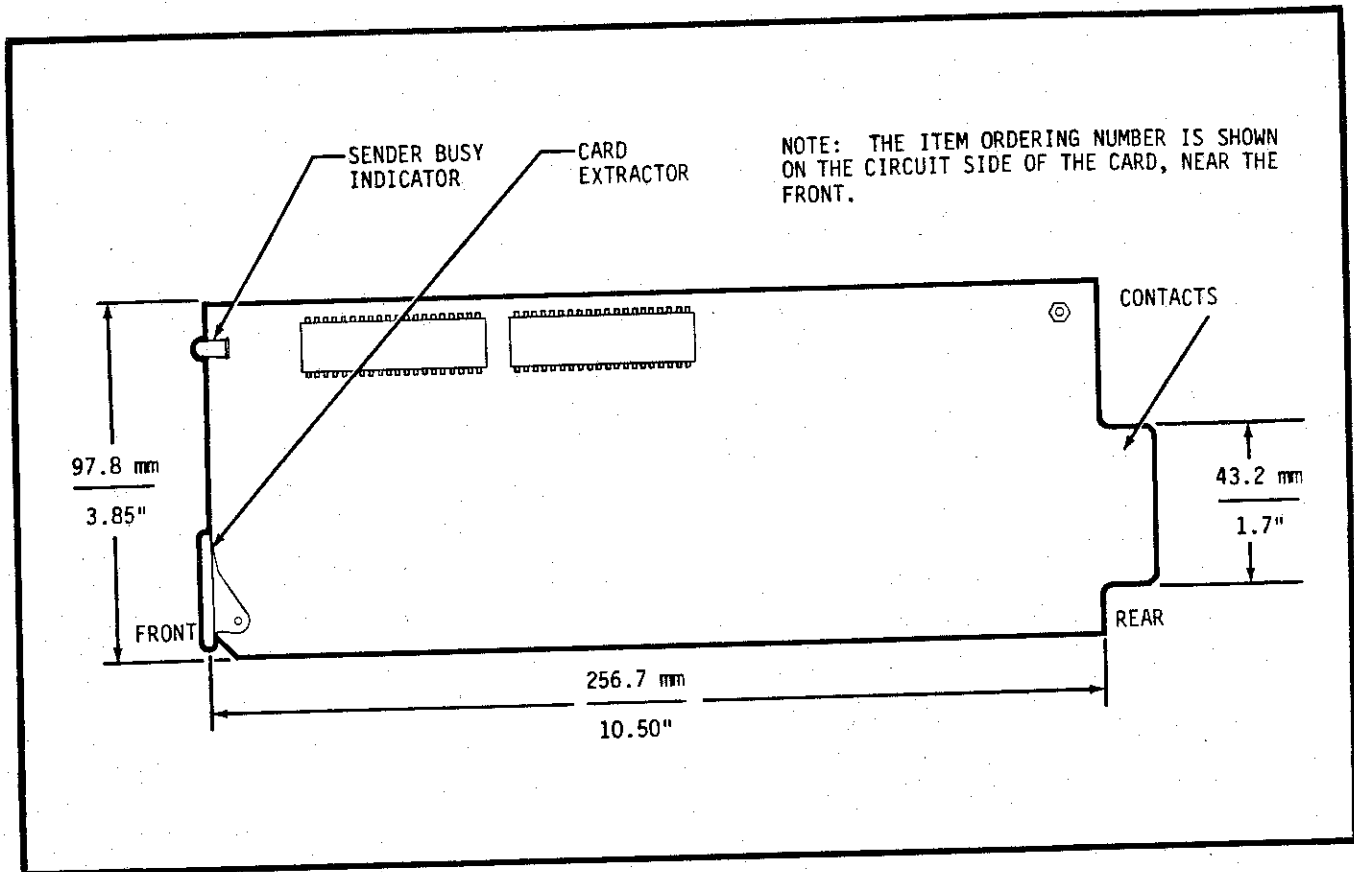

Figure 1 M-168 Circuit Card
**2.01** The M-168 tone-to-pulse converter (see Figure 1) is a dedicated DTMF (Dual-Tone Multifrequency, TOUCH-TONE®) receiver circuit card that converts any keyed digit from one through zero to an equivalent train of rotary-dial type pulses. Packaging options provide a choice between relay rack mounting and mounting behind the linefinders. The unit is designed for direct control (step-by-step) central office conversions. To meet this application, the following features have been incorporated: